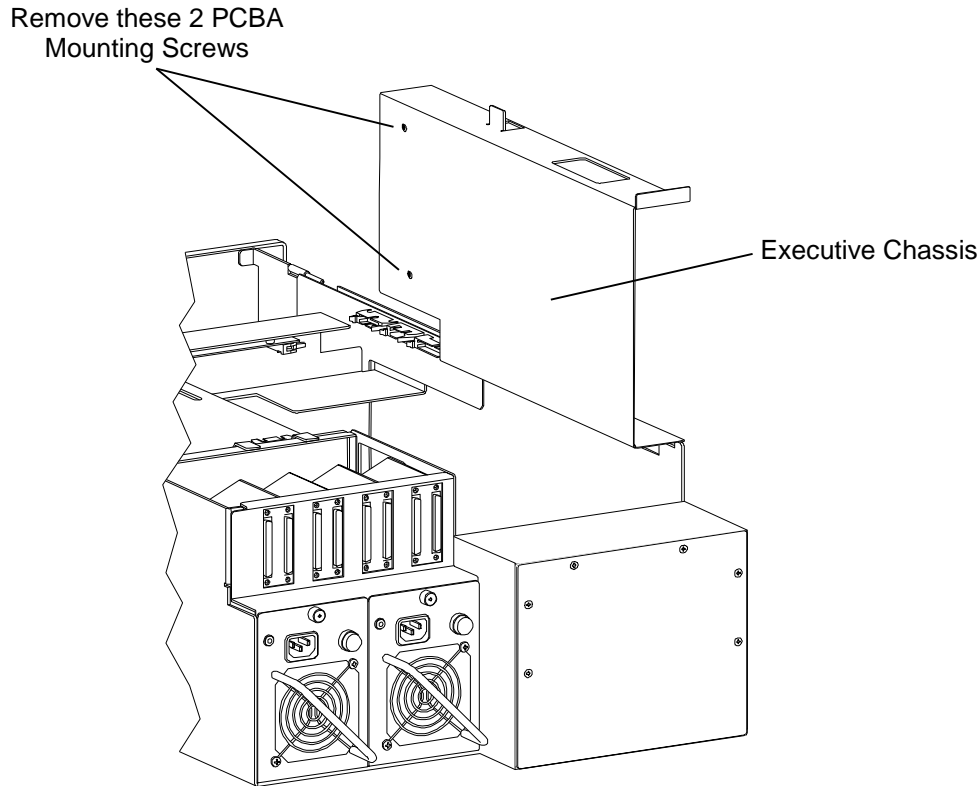

Figure 7-32 The Executive PCBA Mounting Screws
8. Lift the Executive Chassis vertically and using a No. 1 Phillips screwdriver, remove the two Executive PCBA mounting screws. See Figure 7-32.
2. While holding the board so it won't shift, lift the Executive Chassis vertically and using a No. 1 Phillips screwdriver, replace the two flat-head mounting screws. See Figure 7-32. Lower the Executive Chassis back down.